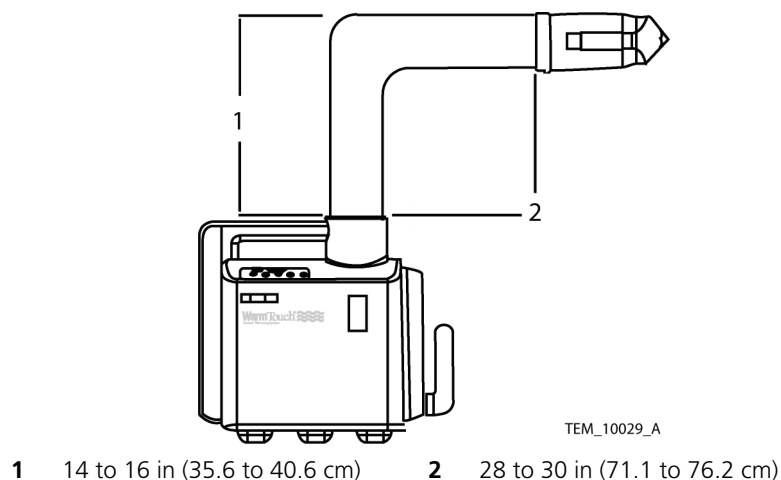

Figure 11. Output Temperature Test Setup
6. Extend the warming system hose to match the configuration shown in Figure 11.